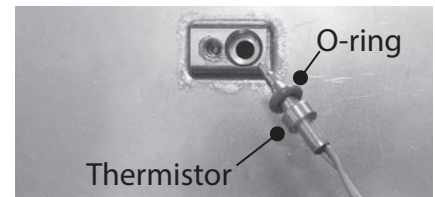

Figure 65 - New O-ring installation
- 19 Locate the new exhaust thermistor, metal clip and O-ring provided in the kit. Install O-ring on the thermistor. See Figure 65.